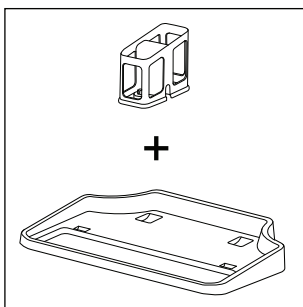
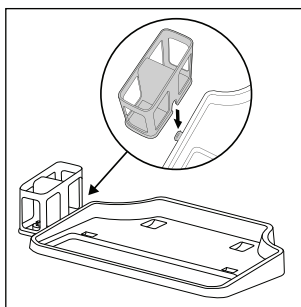

Fig. 4
Fig. 5
- ◆ The parking and cleaning station consists of a storage tray **4** and a rotary brush holder **5** (see fig. 4). To assemble the parking and cleaning station, slide the rotary brush holder **5** sideways into the opening on the storage tray **4**. Slide the rotary brush holder **5** downwards into the opening until it sits firmly in place on the side of the storage tray **4** (see fig. 5).